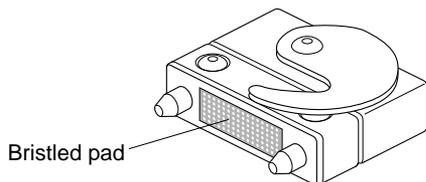
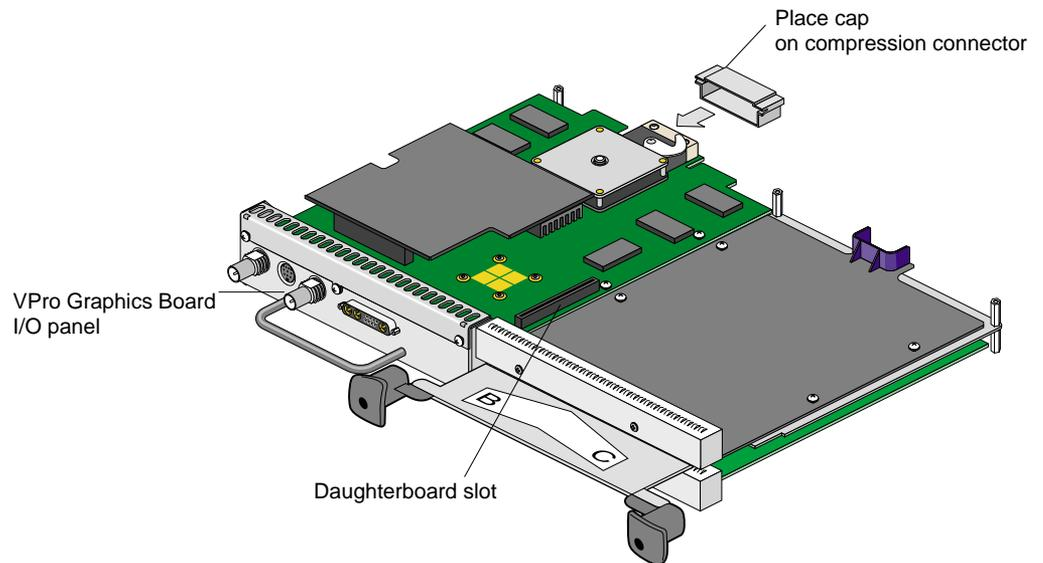
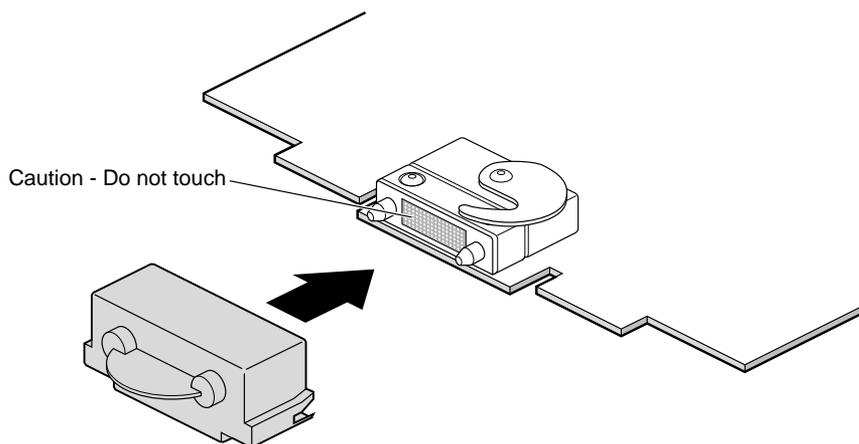

Figure 1-9 Identifying the Compression Connector
Figure 1-10 Placing the XIO Tri-Module on Its Side
Figure 1-11 Placing a Cap on the XIO Compression Connector
Caution: The compression connector on the XIO Tri-Module is very delicate and easily damaged. Do not touch or bump the gold bristled pad (see Figure 1-9). The connector is on the side opposite the handle, as shown in Figure 1-10. Do not grab the back of the XIO Tri-Module when you remove it, or the compression connector may be damaged.
1. Place the XIO Tri-Module on a flat, antistatic surface with the VPro Graphics Board I/O panel on the left side, as shown in Figure 1-10. An empty antistatic bag on your desk works well.
2. Place a cap on the XIO Tri-Module compression connector, as shown in Figure 1-10 and Figure 1-11.